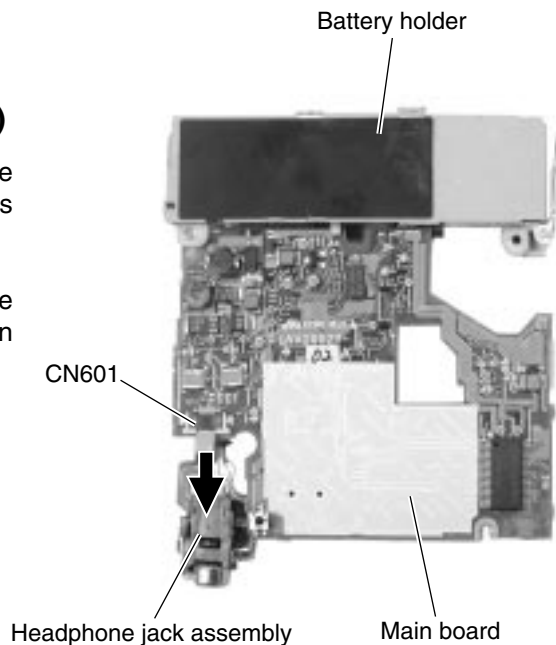

Fig.10
**■ Removing the headphone jack assembly (See Fig.10)**